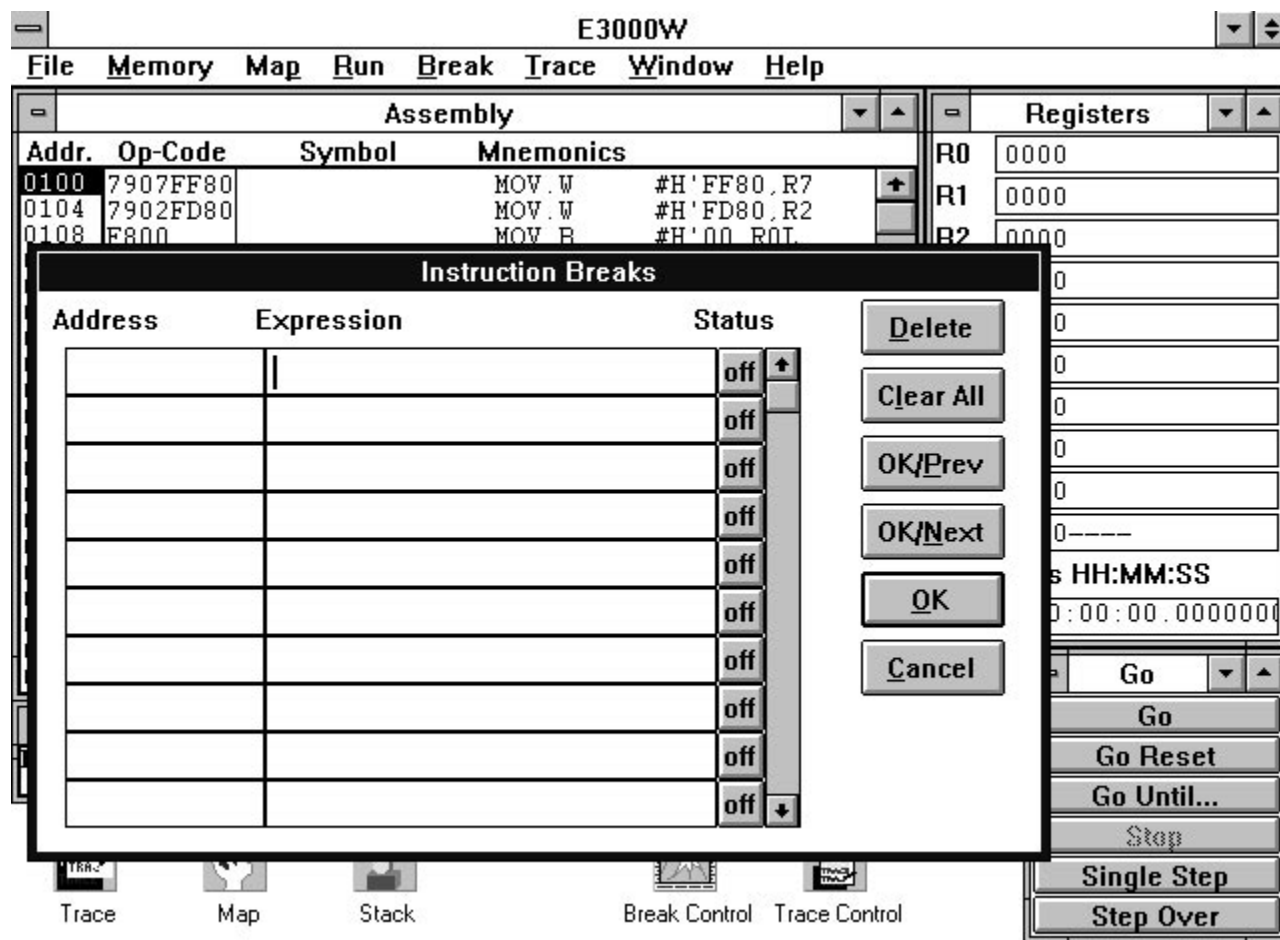

Figure 10.
4. **Software Breakpoints** - A maximum of 31 software breakpoints can be specified. A software breakpoint causes the program to break on a set address(es) upon instruction execution at that location (but not upon instruction pre-fetch). To set a software breakpoint, access the *Instruction Break* dialog box by choosing the *Break* file menu and clicking on the *Instruction Breaks* option (see Figure 10). Alternatively, the *Instruction Break* dialog box can